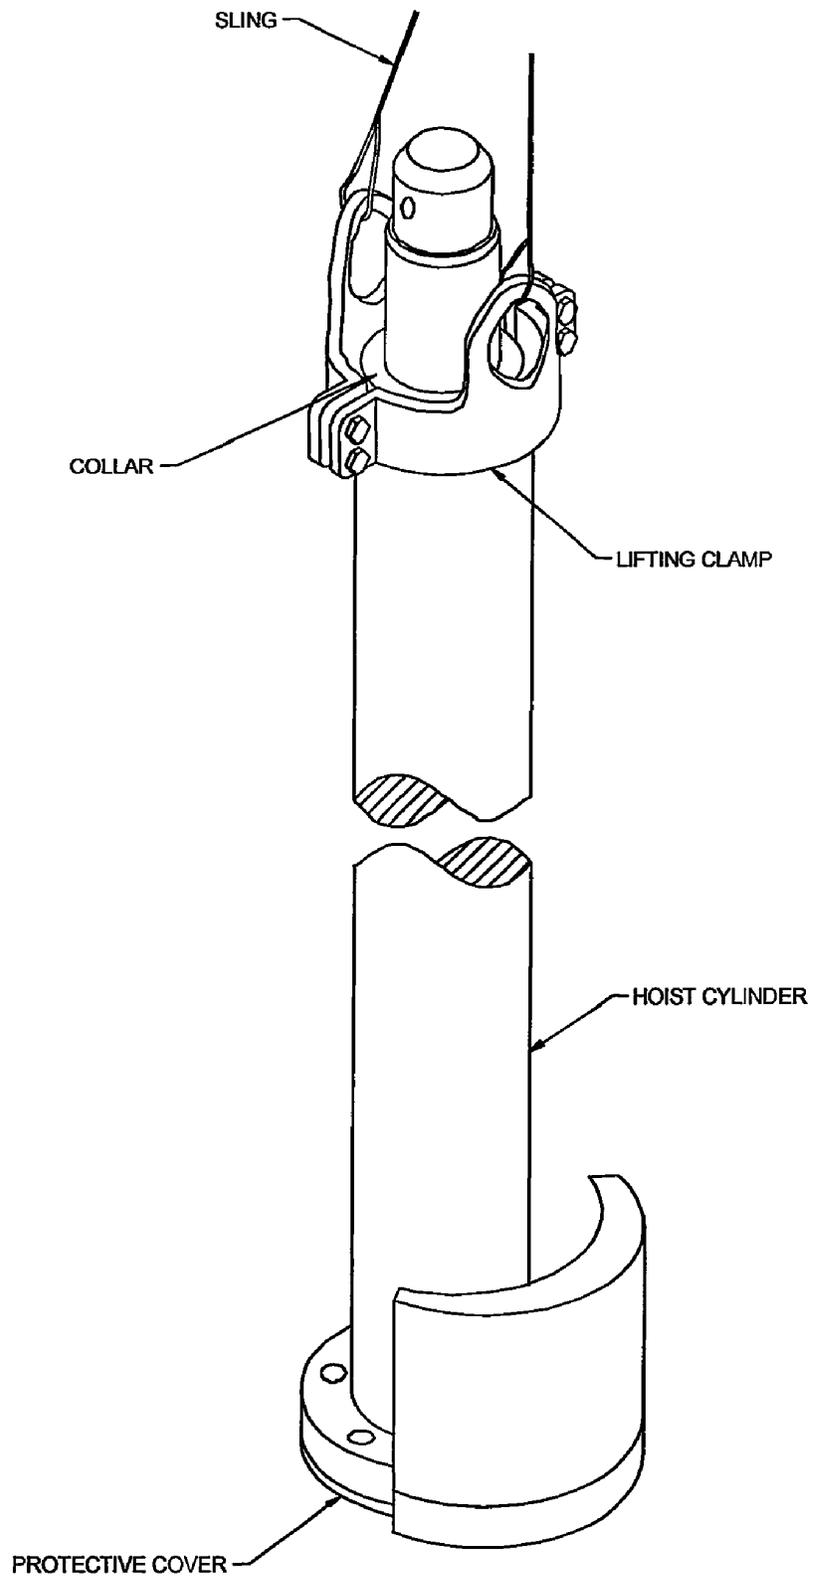

Figure 4-10 Installation of Hoist Cylinder Lifting Clamp (Assy 298)
- c. Refer to Table 2-1 and Reference \(a\) for the proper clamp type. Attach the lifting clamp (Assembly 298, Reference \(a\)) under the hoist cylinder upper flange. See Figure 4-10.
- e. Attach lifting slings to the clamp lifting lugs. See Figure 4-10.